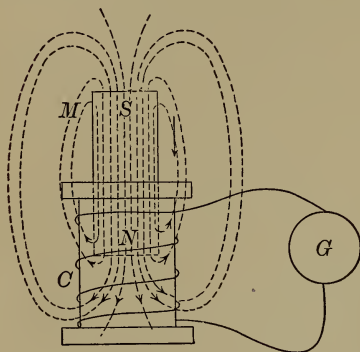
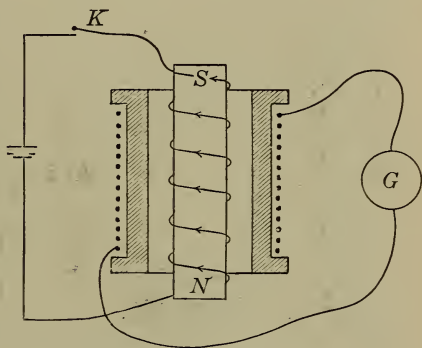

FIGURE 209. — A PERMANENT MAGNET BEING THRUST INTO A COIL OF WIRE.
FIGURE 210. — AN ELECTRO-MAGNET IN A COIL OF WIRE.
Figure 209 shows a permanent magnet (*M*) thrust into a coil of wire (*C*), the ends of the coil being connected through the galvanometer (*G*). When this is done, the galvanometer will deflect, showing that a current passes through the coil. The lines of force come out of a N-pole and go around and into a S-pole. When the magnet is thrust downward, these lines are cut by the wire in the coil.
**233. An Electro-magnet in a Coil of Wire.** — Figure 209 shows a coil of wire with a permanent magnet thrust into it. Figure 210 shows the same coil of wire, but instead of a permanent magnet an electro-magnet has been used. The effect is exactly the same as before.